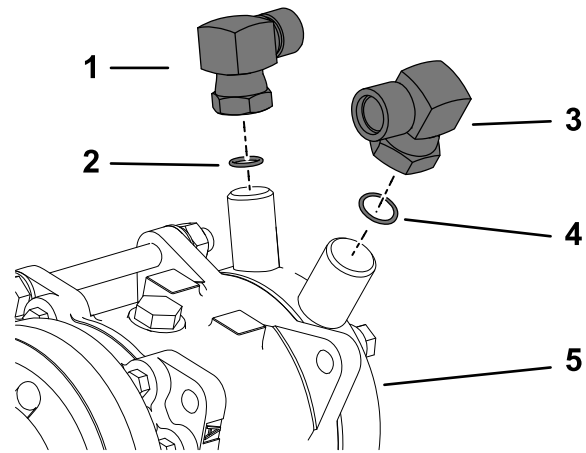

Figure 39
2. Install the right-angle fitting (7/8 inch) and O-ring (size 8) to the low-pressure or suction port on the air-conditioning pump (Figure 39).
4. Install the right-angle fitting (3/4 inch) and O-ring (size 10) to the high-pressure or discharge port on the air-conditioning pump (Figure 39).